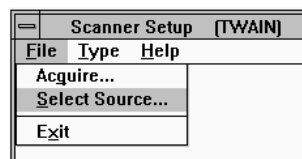

Figure 13: Scanner set-up
5. Select 'Select Source...'. See figure 13.